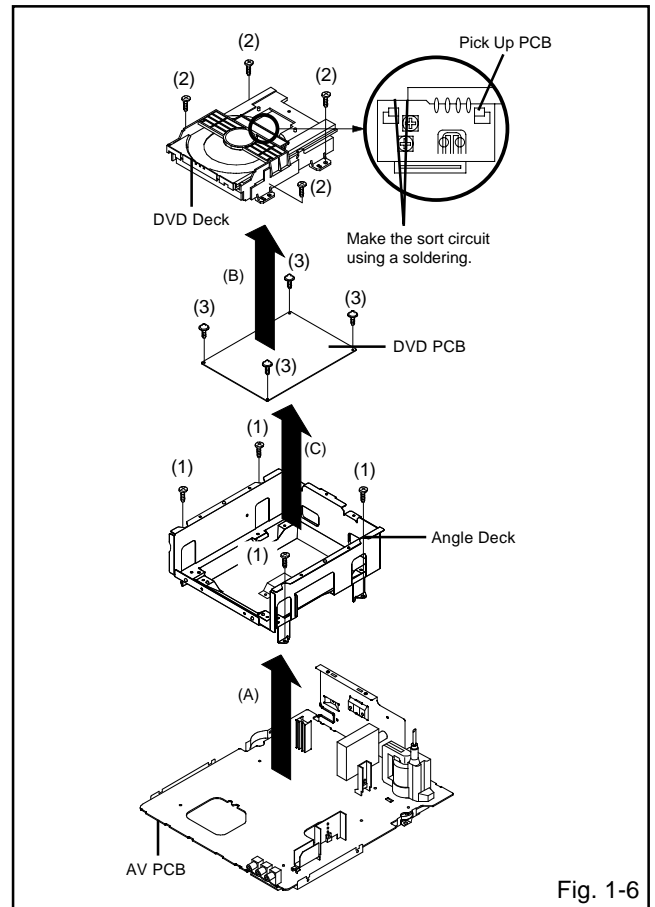

Fig. 1-6
1-6: DVD PCB/DVD DECK (Refer to Fig. 1-6)
1. Make the short circuit on the position as shown Fig. 1-6 using a soldering. If you remove the DVD Deck with no soldering, the Laser may be damaged.
3. Remove the 4 screws (1).
4. Remove the Angle Deck in the direction of arrow (A).
6. Remove the 4 screws (2).
7. Remove the DVD Deck in the direction of arrow (B).
8. Remove the 4 screws (3).
9. Remove the DVD PCB in the direction of arrow (C).